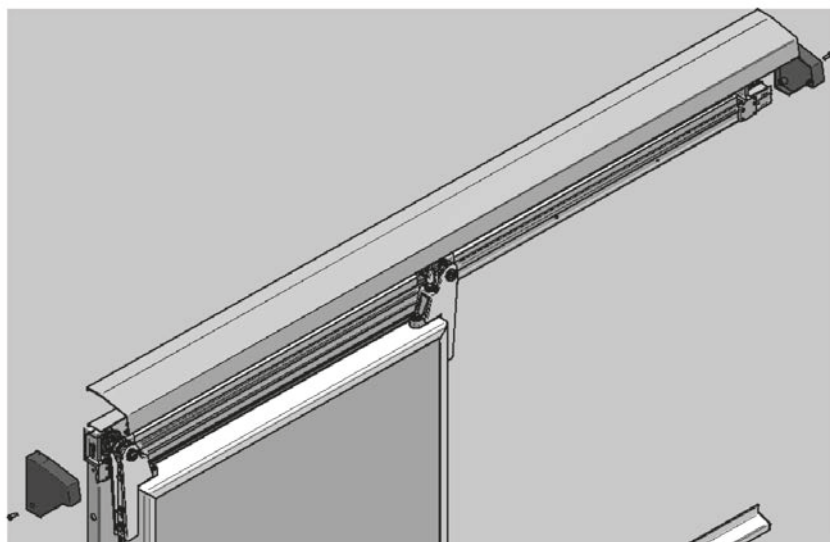

Fig. 12
- Then proceed with assembly of the upper guide casing (Fig. 12).